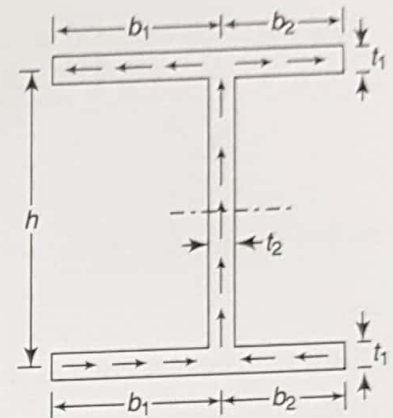

Fig. 6.35
**Example 6.14** || Locate the shear centre for the section shown in Fig. 6.35.
**Given** An I-section as shown in Fig. 6.35